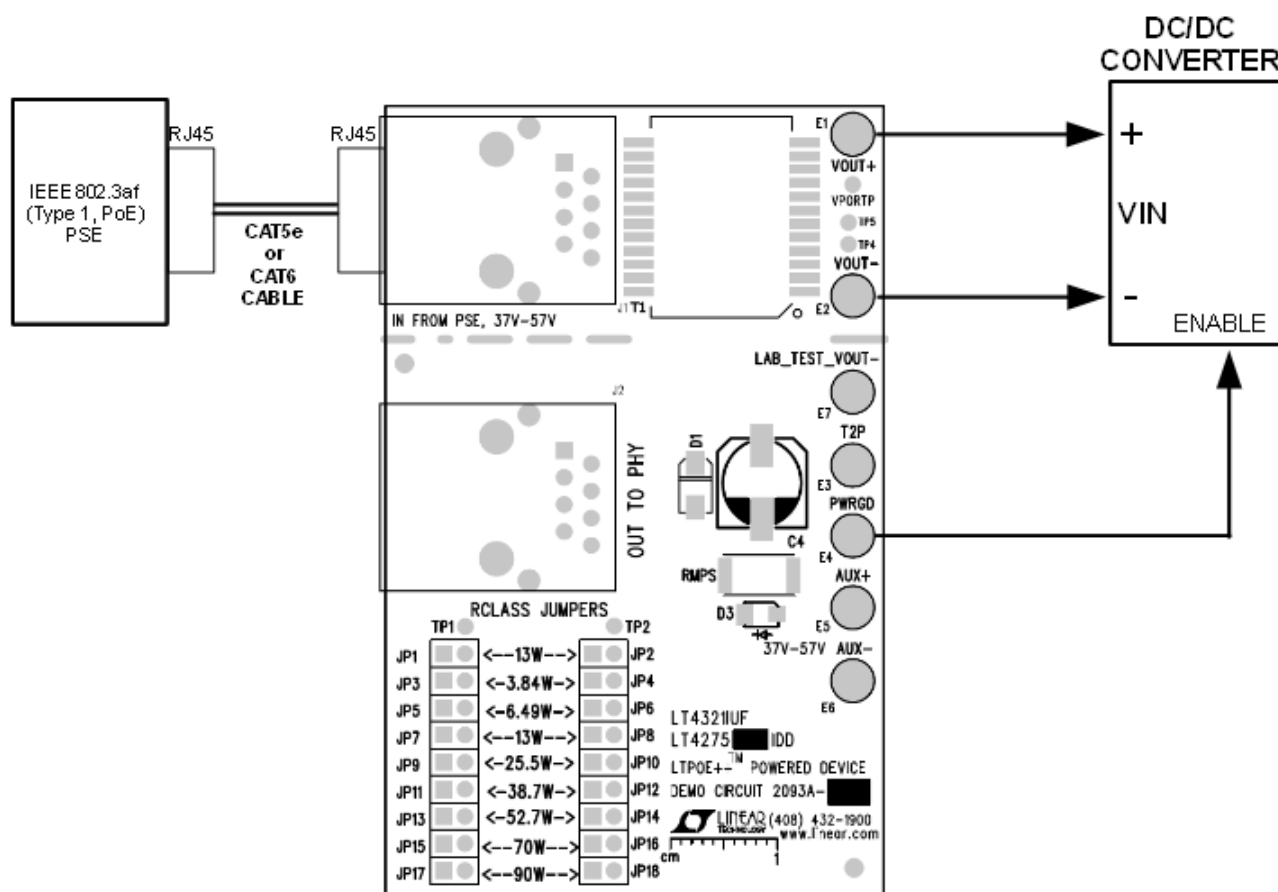
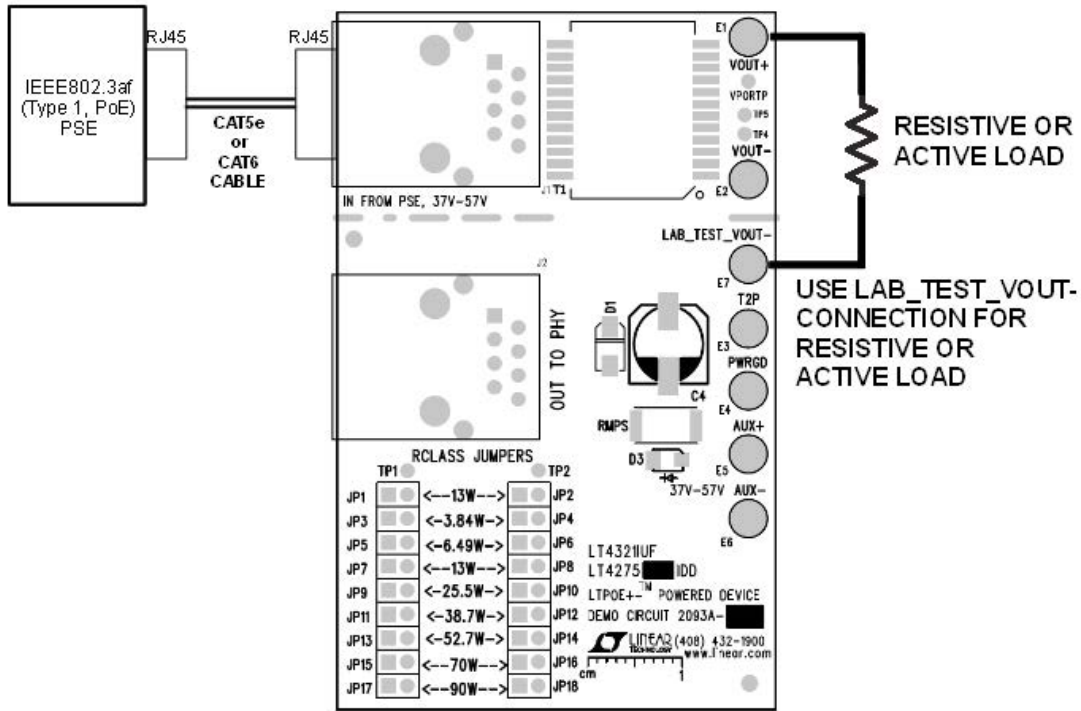

Figure 6. Setup Diagram for the DC2093A-C with a DC/DC Converter and a Type 1 PSE
Figure 7. Setup Diagram for DC2093A-C with a Resistive or an Active Load
1. Refer to Figure 6 to evaluate the DC2093A-C with a DC/DC converter. If a resistive or an active load is used to evaluate the DC2093A-C, use the setup diagram as shown in Figure 7.